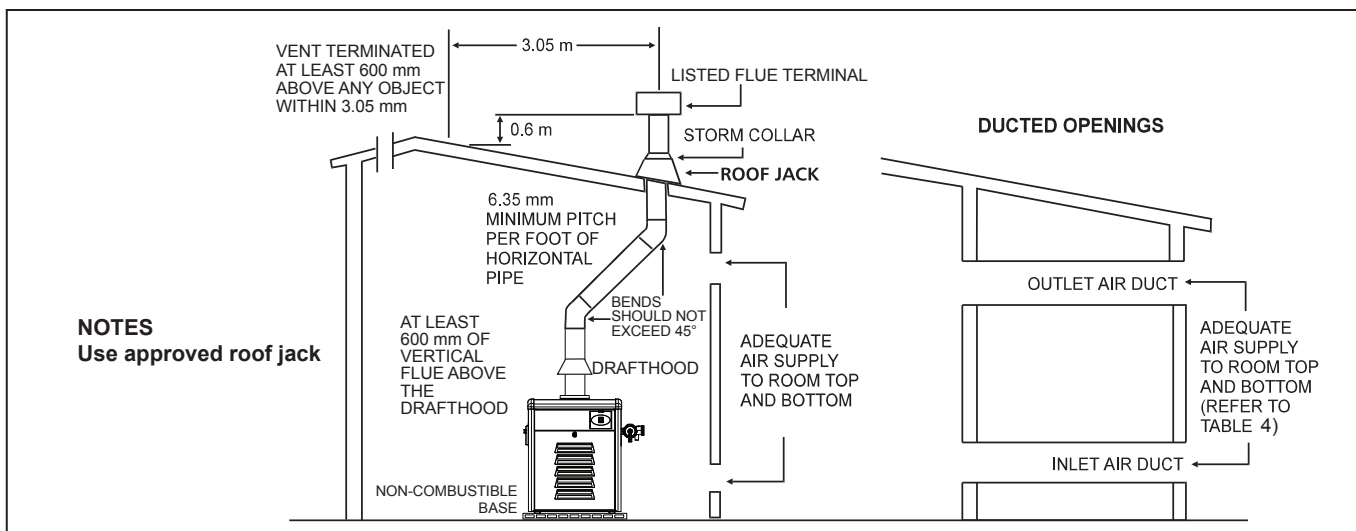

Figure 4. Indoor Installation Venting or Outdoor Shelter Venting
In general, the room in which a heater is installed should be provided with two (2) permanent air supply openings; one (1) within 305 mm of the ceiling, the other within 305 mm of the floor. All indoor installations must have uninterrupted openings to outside air for combustion, ventilation, and dilution of flue gases from inside the building, see Figure 4 and Table 4. Zodiac does not recommend indoor installations that do not provide combustion air from outside the building.
Connect the draft diverter to a Type B11 flue system of at least the same diameter, and end at least 0.6 meters above the highest point of the roof or other object that is within 3.05 m of the vent. Install a certified terminal which allows a full equivalent opening for flue products, see Figure 4. There must be at least 600 mm of vertical flue above the draft hood. Bends in the flue should not exceed 45° to the vertical.